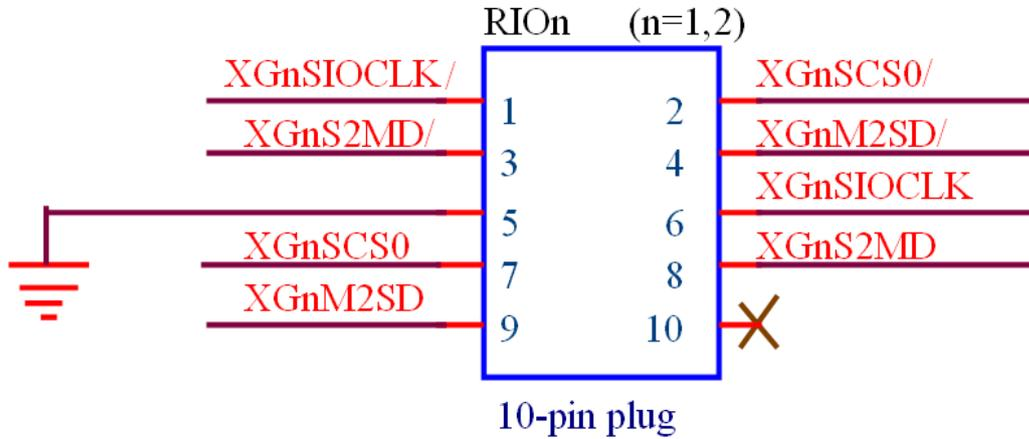

Fig. 3-2
3.2.2.2 Definition of RIO1 and RIO2 connector (Refer to Fig. 3-2)